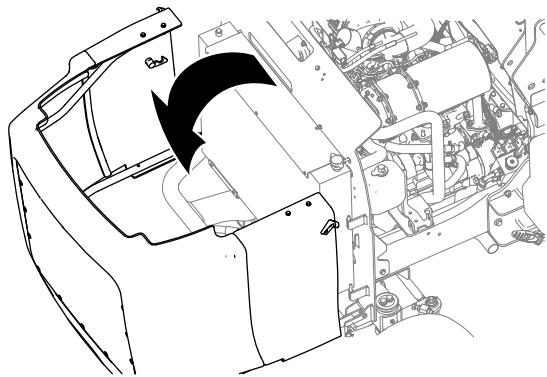

Figure 67
5. Unlatch and open the hood (Figure 67).